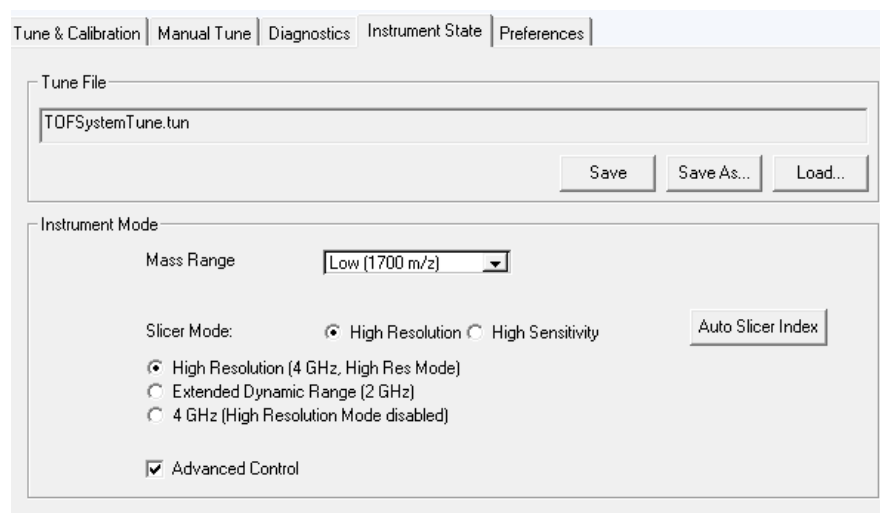

Figure 9. Instrument State tab - High Resolution selected
- 3 Click **High Resolution (4GHz. High Res Mode)**. (See **Figure 9**.)